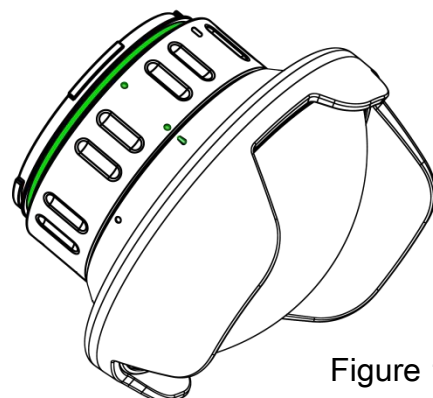

Figure 1
**03** Align the dot sign on the extension ring to the bar sign on the dome port, then press the extension ring onto the dome port till they are fully attached. (As shown in Figure 1)